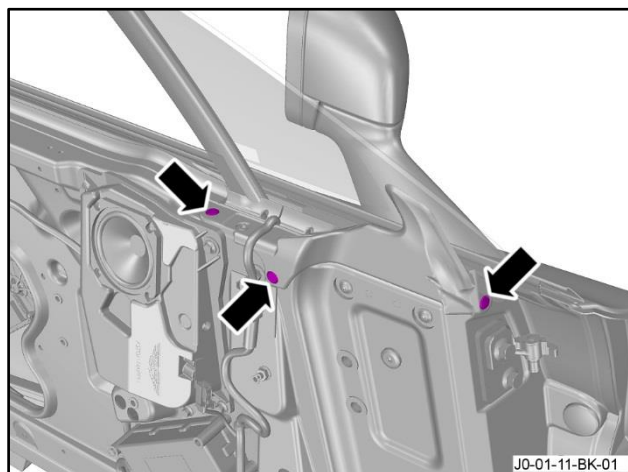

Figure 46
37. Install the three clips that attach the new inner moulding to the door (refer to Figure 46).